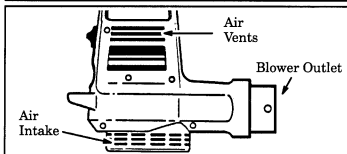

Figure 5
1. **Keep the air intake clean** and air vents free of debris to avoid overheating the motor. Figure 5. Prevent foreign objects from entering fan area.
- b. Hold the unit so the blower outlet (Figure 5) is pointing toward the ground. Gently shake the unit from side to side. If object remains inside the housing, do not try to remove the object in another way. *Do not disassemble the housing yourself.* Take the tool to a qualified service dealer to remove the object before restarting the motor.